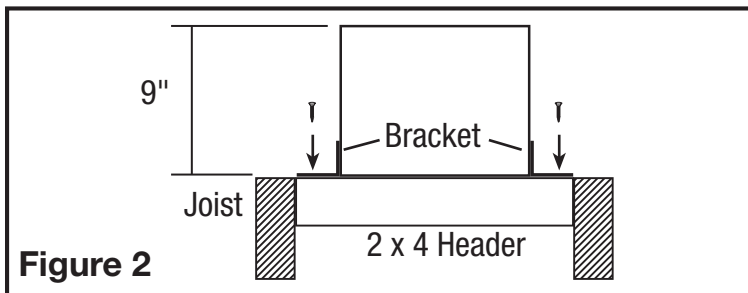

Figure 2
- Mounting to a Joist:** Install two - 2 x 4 headers (not included) between the joists. Position the fan housing on top of the headers and secure the mounting brackets with screws (not included) to the header (Figure 2).